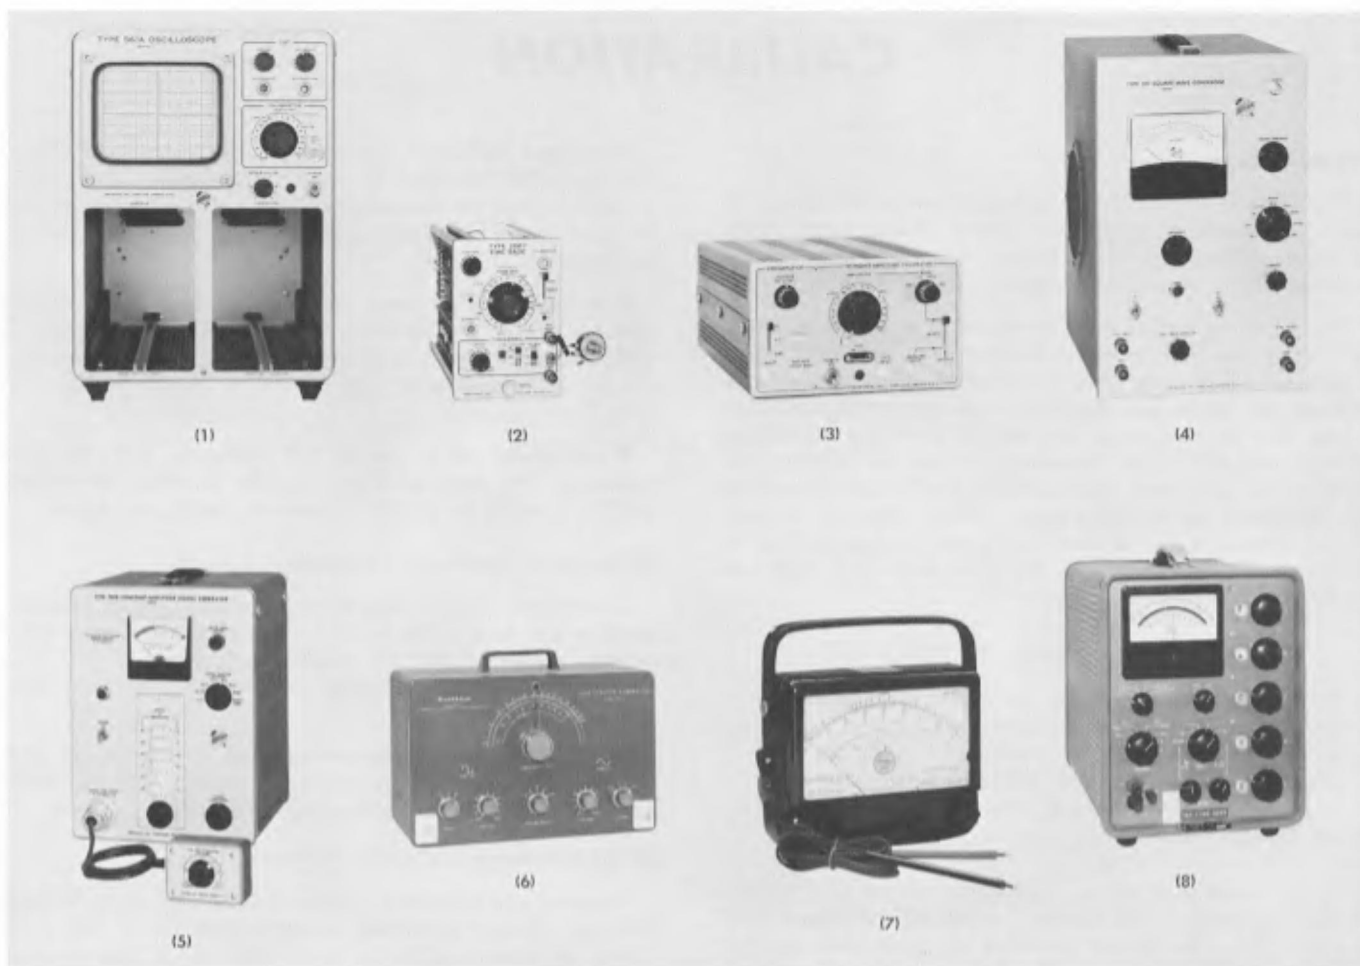
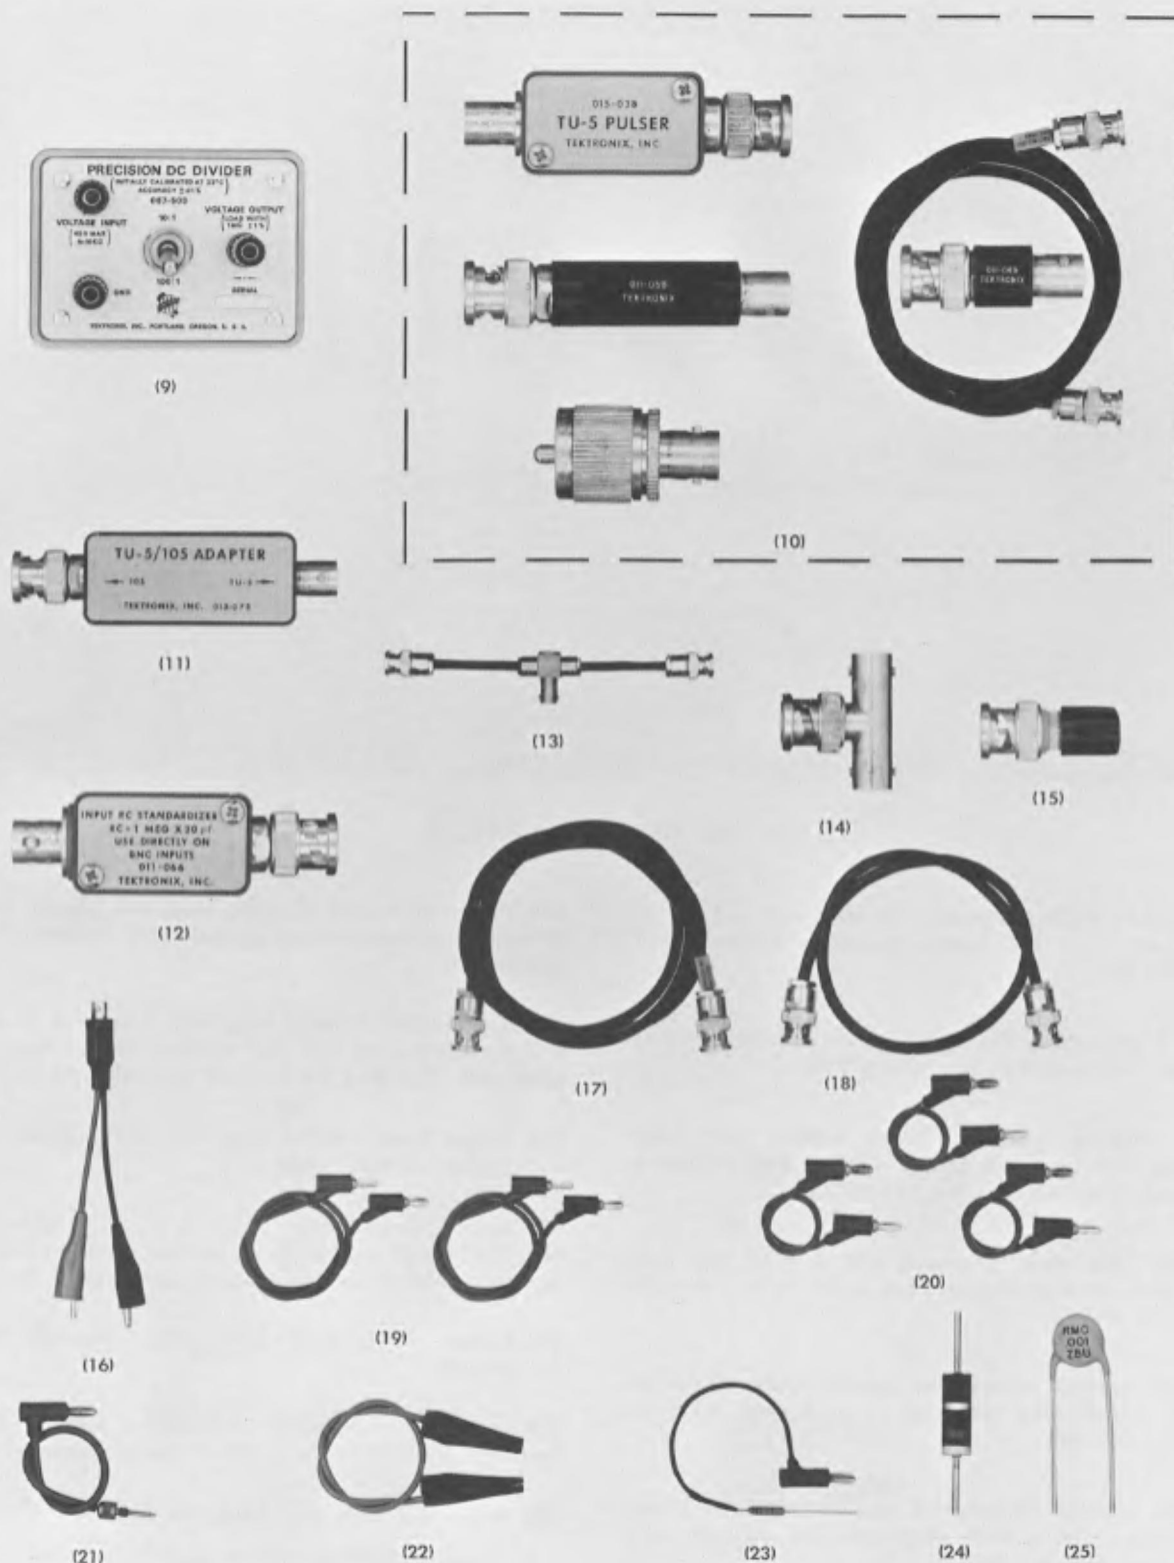
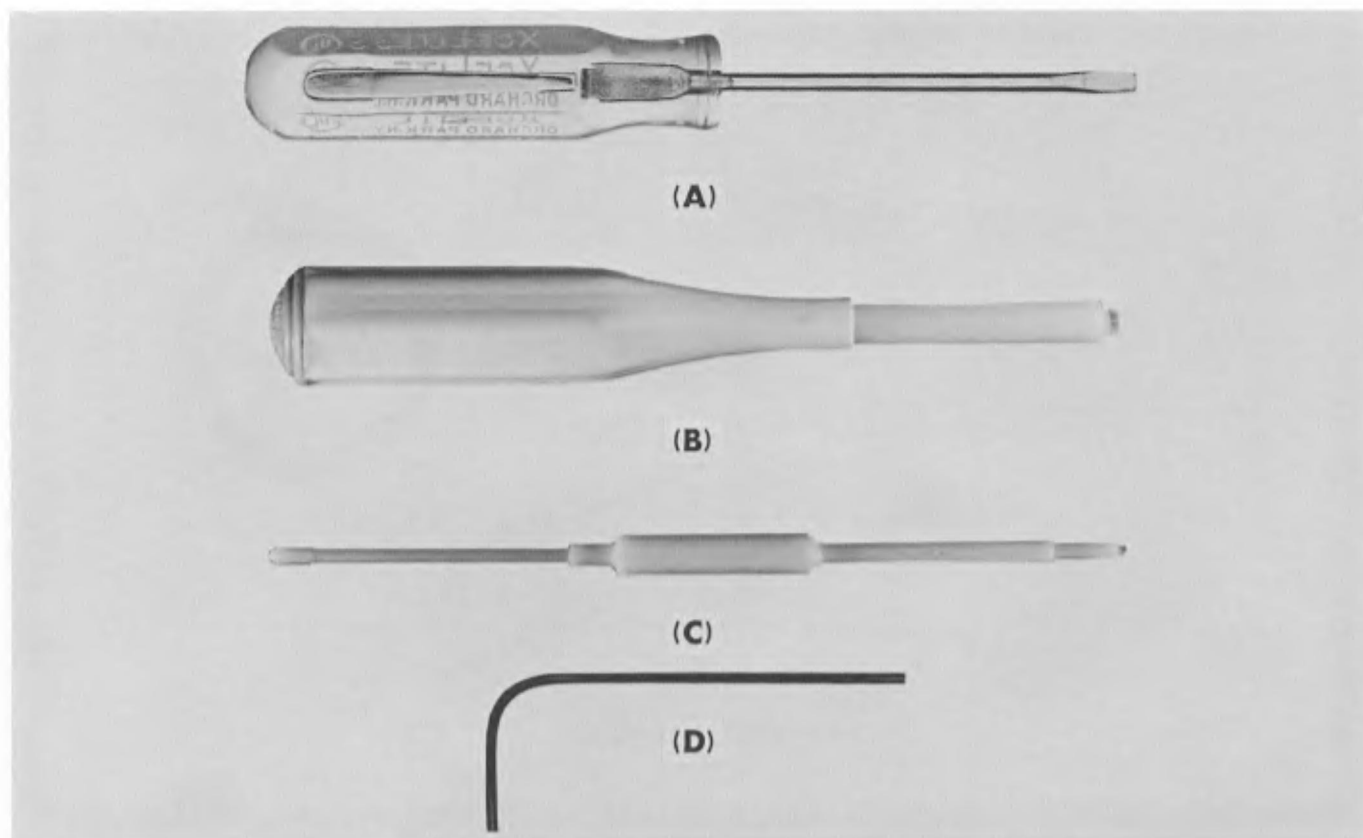

Fig. 5-1. Equipment required for a complete calibration of the Type 3A7.
Fig. 5-2. Accessories used in calibration of the Type 3A7.
Fig. 5-3. Adjustment tools.
The following equipment, or equivalent, is required for a complete calibration of the Type 3A7. Exception: Item 7 dc voltmeter can be deleted if you use item 8 to perform steps 2 and 6 in the procedure. Fig. 5-1 shows items 1 through 8; Fig. 5-2 shows items 9 through 23; Fig. 5-3 shows the adjustment tools needed.
(1) Oscilloscope, Tektronix 560-Series which accepts the Type 3A7 plug-in. The oscilloscope must operate properly.
(2) Type 2B67 Time-Base Plug-In Unit, or equivalent. Required if item 1 does not have its own internal time base.
Horizontal deflection required is approximately 5 V/div. The Type 3B4 Time-Base Plug-In Unit (not shown in Fig. 5-1) is ideally suited for this purpose. Or, a plug-in amplifier can be used if the time-base unit does not have the external horizontal input facility.
If a Type 2B67 is used, the external input sensitivity is about 1 V/div. To obtain a deflection factor of about 5 V/div, simply connect a 50,000-ohm potentiometer between the Ext Input connector and ground as shown in Fig. 5-1, item 2.
(16) Adapter, clip lead. Equipped with a BNC jack connector on one end and alligator clips on the leads. Tektronix Part No. 013-0076-00.
(17) 50-ohm (nominal impedance) coaxial cable, 42 inches long, with a BNC plug connector on each end. Tektronix Part No. 012-0057-00.
(18) 50-ohm (nominal impedance) coaxial cable, 18 inches long; equipped with a BNC plug connector on each end. Tektronix Part No. 012-0076-00.
(19) Two patch cords, 18 inches long, with banana plug and jack combination connector on each end. Tektronix Part No. 012-0031-00.
(20) Three patch cords, 6 inches long, with banana plug and jack combination connector on each end. Tektronix Part No. 012-0024-00.
(21) Jumper lead, 6 inches long, with a tip plug on one end and a banana plug and jack combination connector on the other end. (Tip plug fits Vc OUT jack on Type 3A7.)
(22) Jumper lead, 7 inches long, with miniature insulated alligator clips on each end.
(23) Resistor, fixed, 1 M Ω , $\frac{1}{2}$ or $\frac{1}{4}$ W, 1%. Tektronix Part No. 323-0481-00 for the $\frac{1}{2}$ -W resistor. Solder a 4-inch lead equipped with a banana plug to one lead of the resistor.
(24) Resistor, fixed, 47 Ω , $\frac{1}{2}$ W, 10%. Tektronix Part No. 302-0470-00.
(25) Capacitor, fixed, 0.001 μ F, 50 V or higher. Tektronix Part No. 283-0000-00 for a 500-V discap capacitor.
(26) Adjustment tools (one each, see Fig. 5-3):